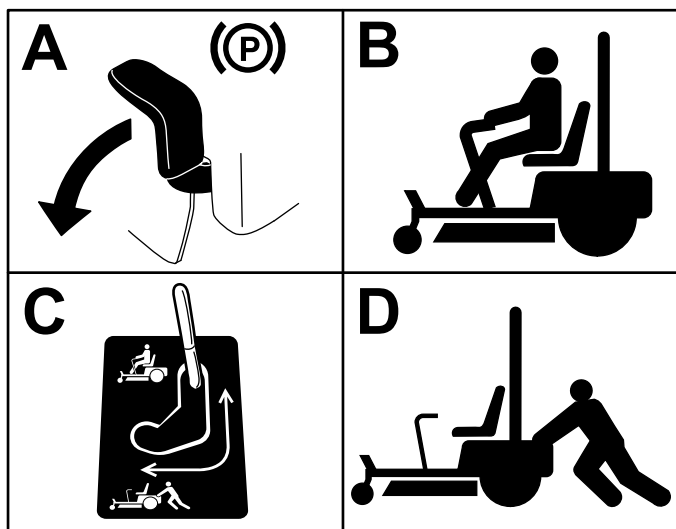

Figure 35
3. To push the machine, move the bypass levers rearward and out to lock them in place as shown in Figure 35.